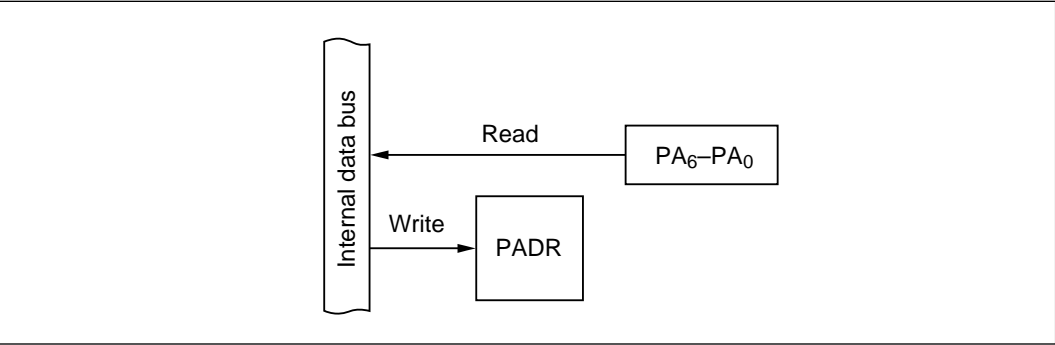

Figure 9-61 Input Port (Modes 1 to 7)
(1) **Input Port (PA₆ to PA₄ in Modes 1 to 7; PA₃ to PA₀ in Modes 1, 2, 4, 6, and 7):** Figure 9-61 shows a block diagram illustrating the general-purpose input function. Table 9-44 indicates register read/write data. Values written in the port A data register (PADR) have no effect on general-purpose input lines. When read, PADR returns the value at the pin.